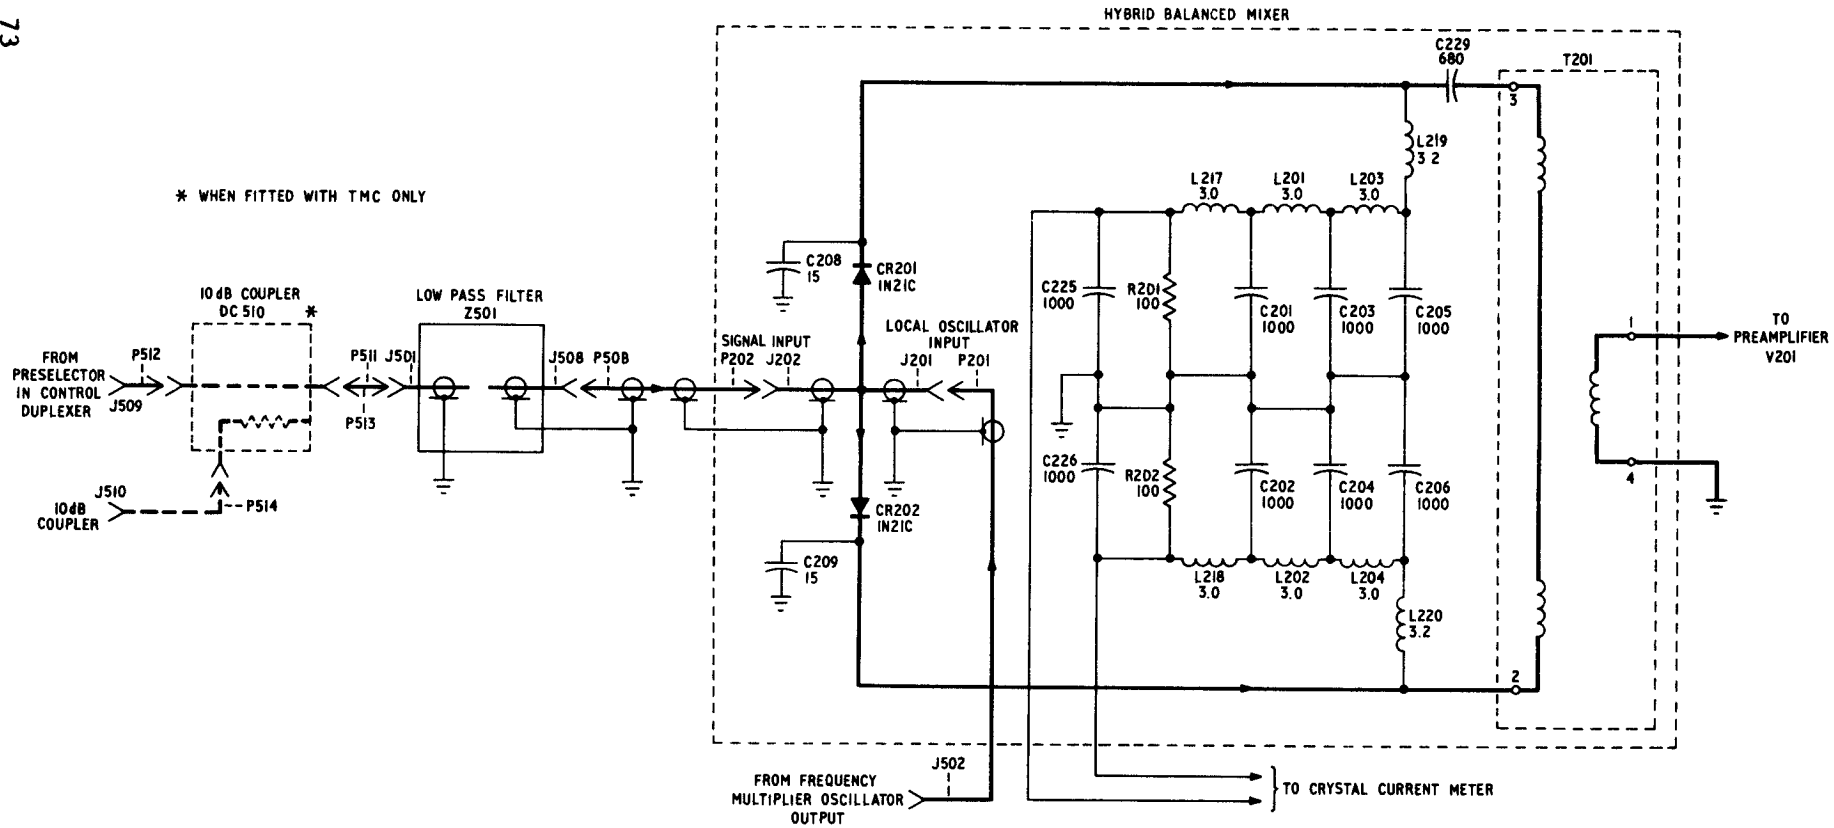
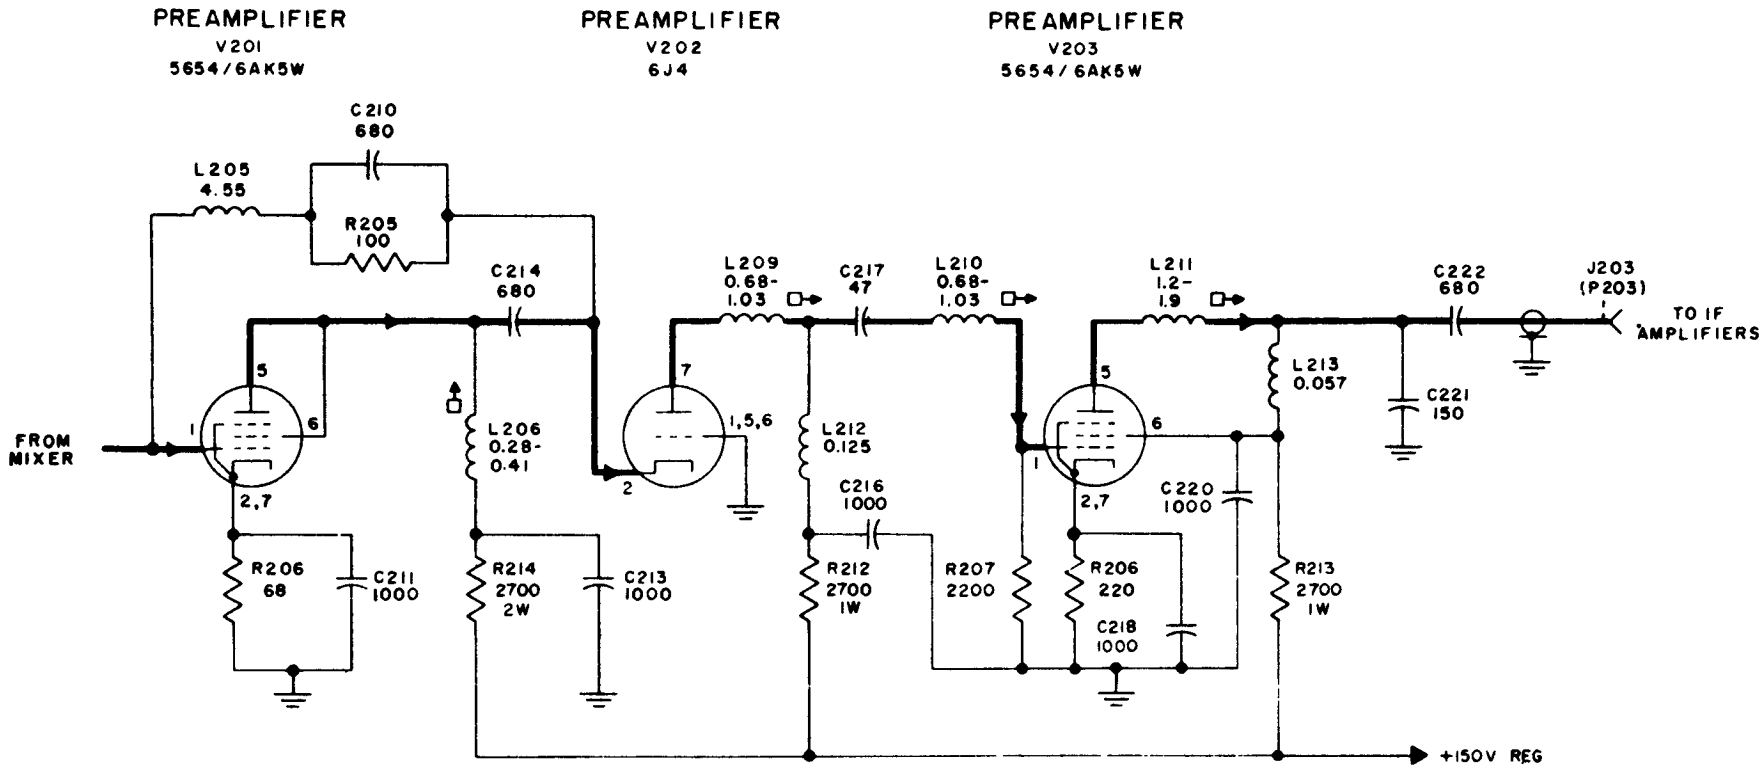

Figure 4-13. Radio Receiver R-824/URN, Hybrid Balanced Mixer, Simplified Schematic Diagram
Figure 4-14. Radio Receiver R-824/URN, Preamplifier, Simplified Schematic Diagram
(a) MIXER AND PREAMPLIFIERS. (See figures 4-13 and 4-14.)—The distance interrogation pulse pairs pass through low-pass filter Z501, which rejects frequencies between 1650 and 10,000 mc and passes interrogations to the mixer stage of the receiver (figure 4-13). A local oscillator signal from the frequency multiplier-oscillator in the transmitter is also applied to the mixer stage. At the mixer stage, the local oscillator signal, distance interrogations, and random noise pulses generated in the mixer itself are combined to produce an i-f signal of 63 mc. output of the mixer stage, consisting of distance interrogation pulse pairs have pulses spaced 12 microseconds apart and random noise pulses at a random spacing, is fed to the preamplifiers (figure 4-14).
The output of the mixer is applied to the control grid (1) of first preamplifier stage V201 (figure 4-14). Slug-tuned coil L206 in the plate circuit of tube V201 is tuned to 63-mc. The combination of coils L206, L209, L210, and L211 produces a relatively flat i-f response centered at 63 mc. The signal is amplified in stage V201 and applied to the cathode of grounded grid amplifier V202.